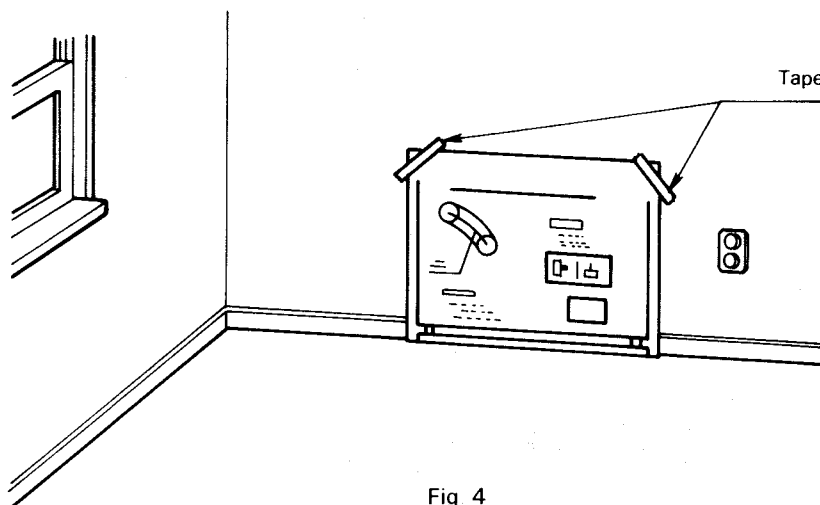

Fig 4
3. For standard installation, use the template enclosed with the heater to position the hole for the standard flue pipe. Tack or tape template to the wall at the desired position (See Fig. 4).